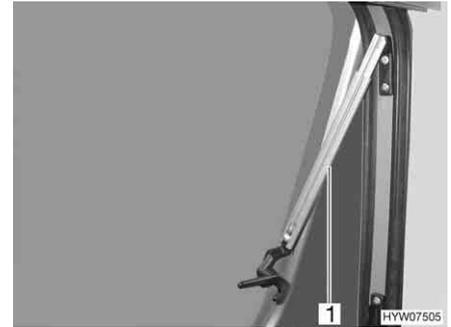

Fig. 56 Hinged window with automatic hinges, open
- Open the hinged window to the desired latched position. The automatic hinge (Fig. 56,1) locks in place automatically.